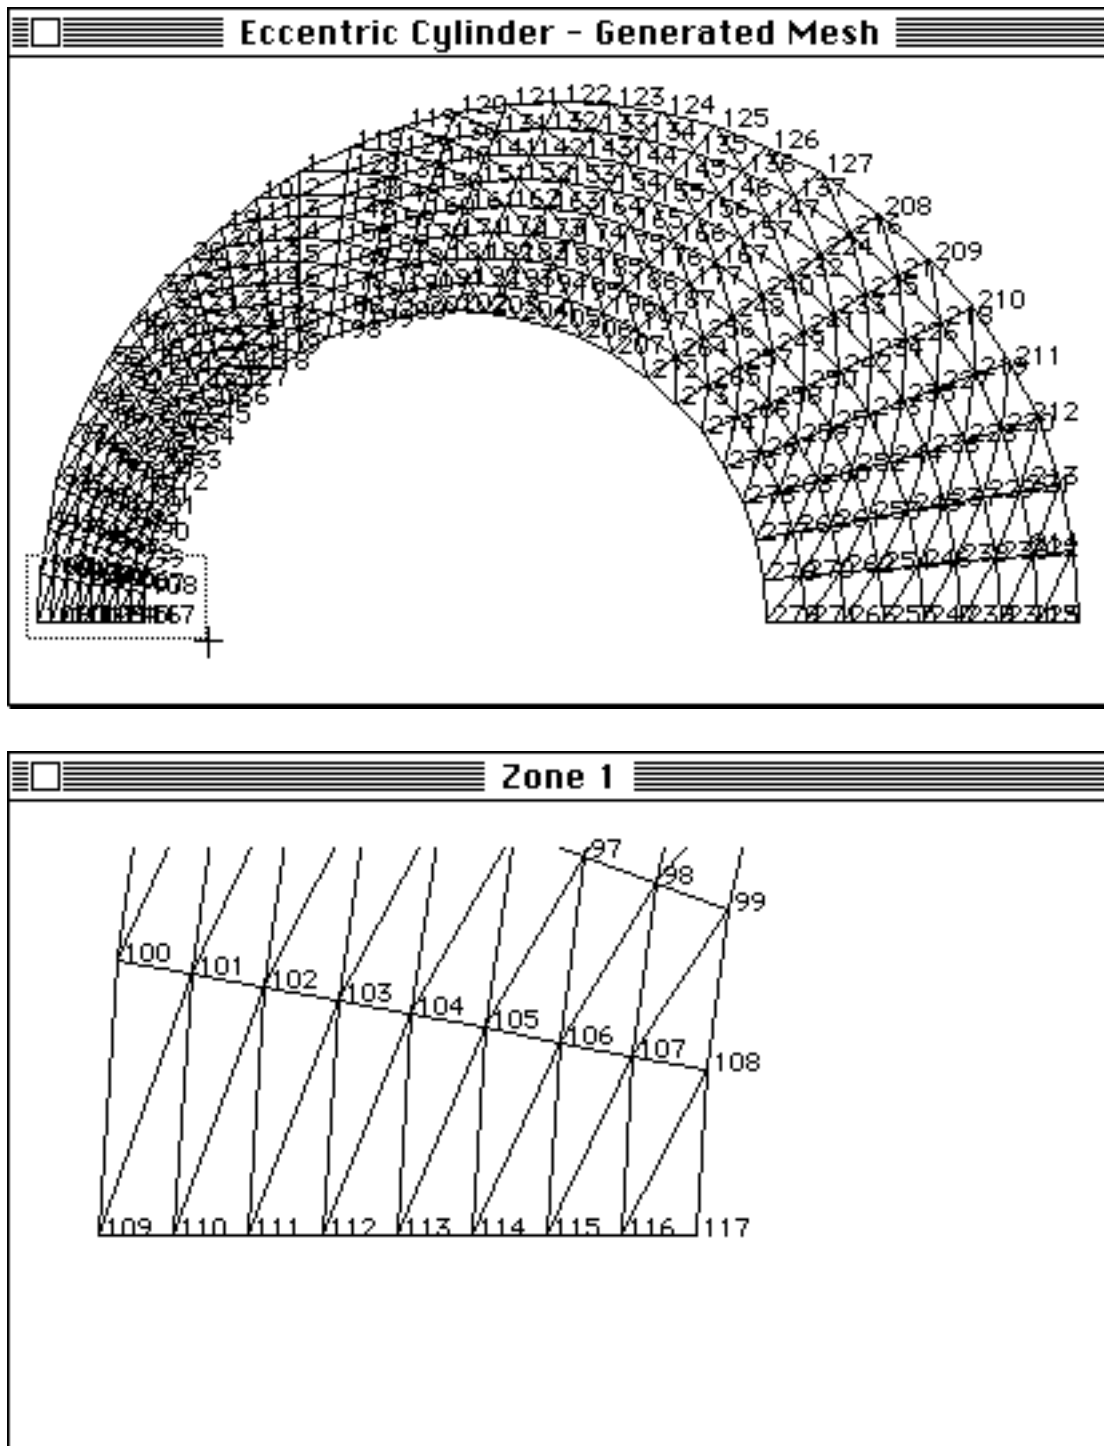

Fig 2.23 Zoom node numbers
- Identify (Fig 2.23) the area to be enlarged by dragging a rectangle with the mouse.
- Option-click (i.e., press and hold option key and click) in the rectangle to redraw the area as large as the screen size permits (Fig 2.23).